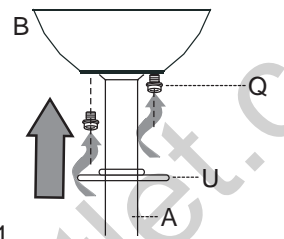

Fig. 1
1. Locate two canopy mounting screws (Q) on underside of mounting bracket (C) and remove canopy mounting screw (Q) closest to the open end of the hanging bracket (C). Partially loosen the other canopy mounting screw (Q). Lift canopy (B) to mounting bracket (C). Place rounded part of slotted hole in canopy (B) over loosened canopy mounting screw (Q) in hanging bracket (C) and push up. Twist canopy (B) to lock. Re-insert canopy mounting screw (Q) that was removed, and then tighten both canopy mounting screws (Q) securely. Slide canopy cover (U) up to canopy (B), aligning rounded part of slotted holes in canopy cover (U) with screwheads in bottom of canopy (B). Turn canopy cover (U) to the right (clockwise) until it stops. [Fig. 1]